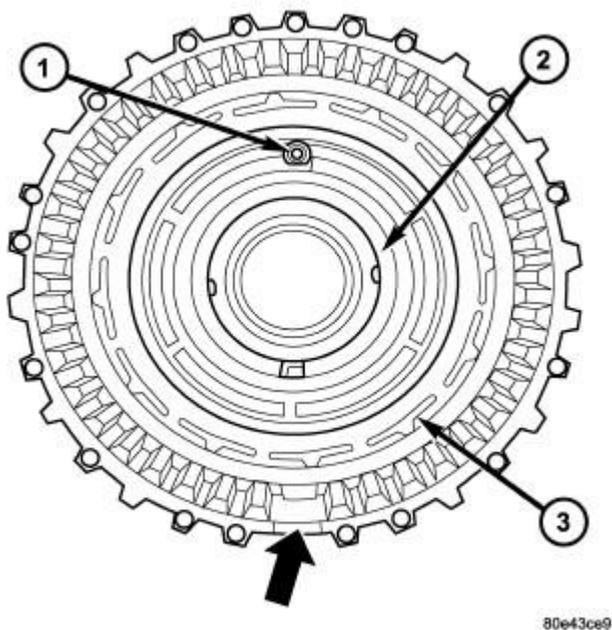

Fig. 124: B2 Piston & Piston Guide Ring
4. Insert piston guide ring (2). Refer to **Fig. 124**. The valve (1) in the piston guide ring must be on top.